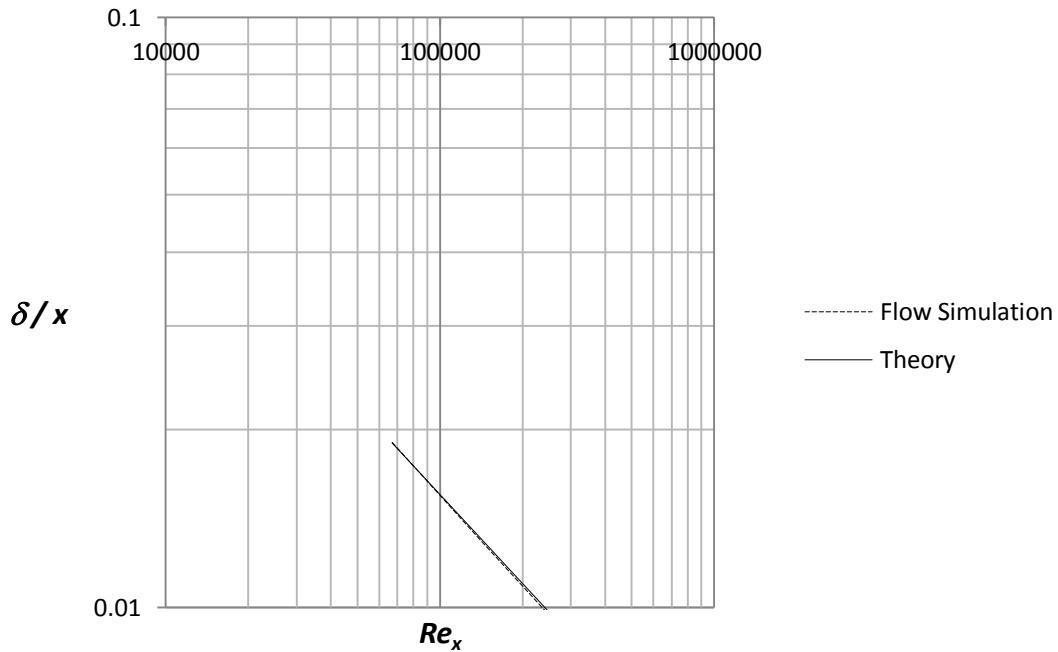

Figure 2.25b) Comparison between Flow Simulation and theory on boundary layer thickness
27. Place the file “xy-plot figure 2.25b)” into the **Local Disk (C:/Program Files /SolidWorks Corp/SolidWorks Flow Simulation/lang/english/template/XY-plots** folder to make it available in the **Template** list. Repeat step 24 and select the new template for the XY-plot as shown in figure 2.25b). Rename the xy-plot to **Boundary Layer Thickness**.